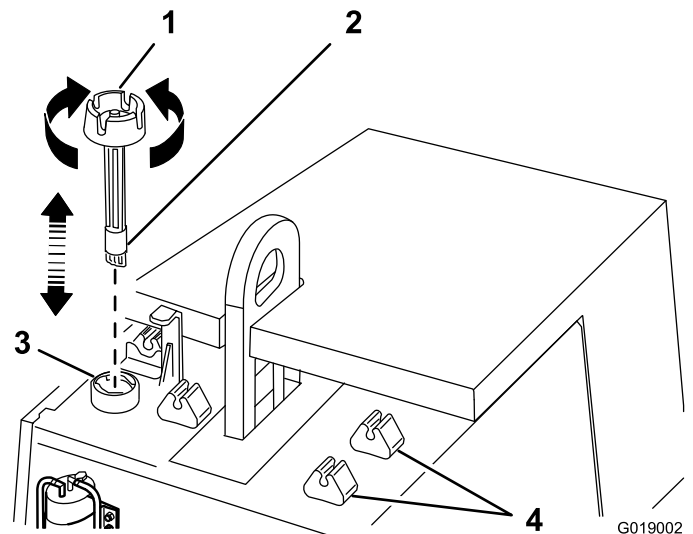

Figure 22
quantity sensor is clear of the filler neck of the fuel tank. (Figure 22).
4. Tighten the fuel cap clockwise hand tight (Figure 22).